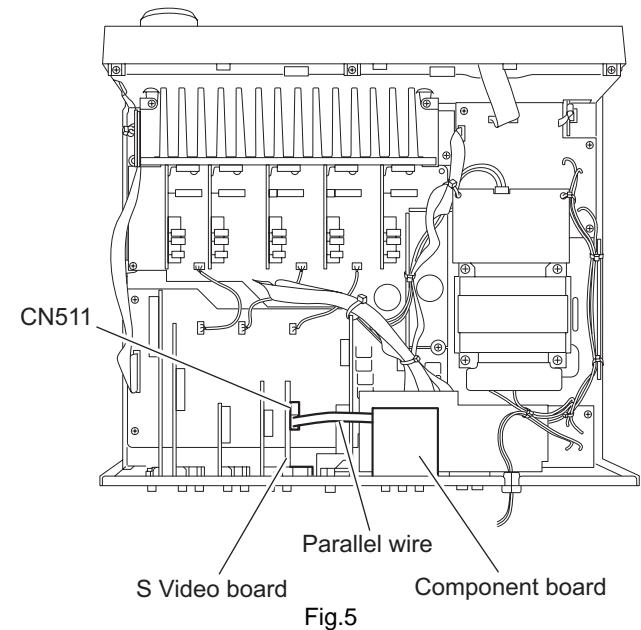

Fig.5
2.4 Removing the component board (See Figs.5 and 6)
- From the top side of the main body, disconnect the parallel wire from the connector CN511 on the S Video board. (See Fig.5)